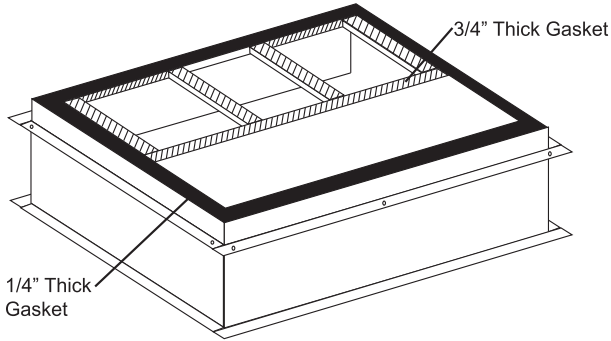

Fig. 5 - Gasket Detail
14. Install provided 1/4-in. thick gasket seal on the outer/top perimeter of the roof curb. (See Fig. 5.)
15. Install provided 3/4-in. thick gasket seal around the duct openings. See Fig. 5. When installed, the weight of the unit will compress the gasket to seal the joint between the unit and the roof curb. Gasket strips must fit tightly together and leave no gaps for leakage.